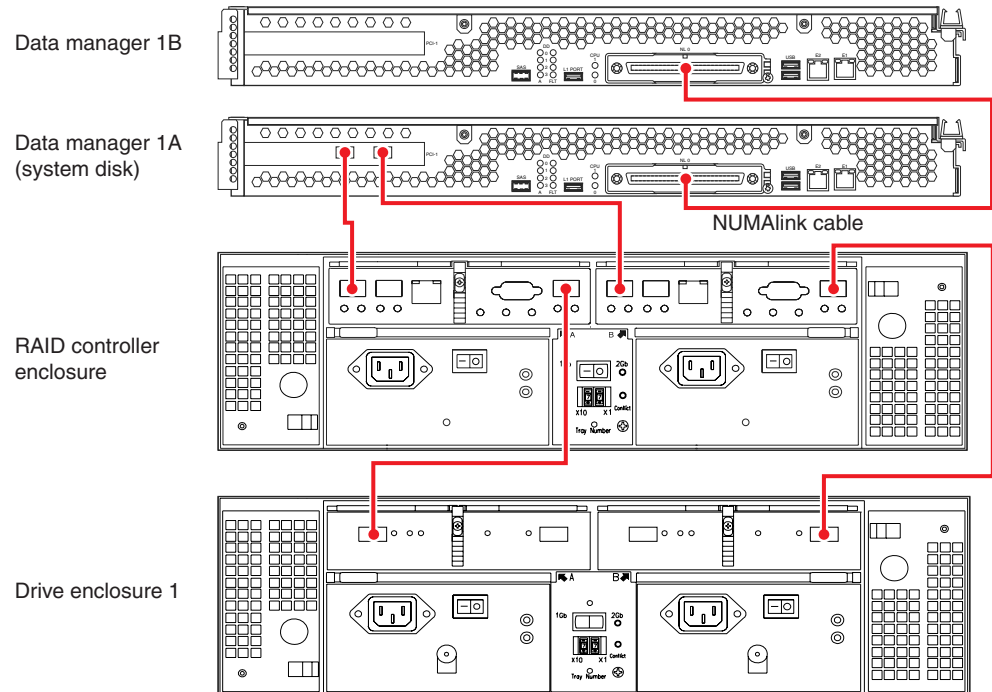

Figure 1-10 Two-Module Data Manager With One Fibre Channel Card a Two-Controller RAID Enclosure and One Disk Expansion Enclosure
Use the following steps and Figure 1-10 to cable a two-module single-fibre channel card data manager to a two-controller RAID enclosure and one disk expansion enclosure.
1. Connect Data Manager 1A's Fibre Channel PCI card port A (blue label [1A]) to RAID controller A's port 1 (blue label [1A]), see Figure 1-10.